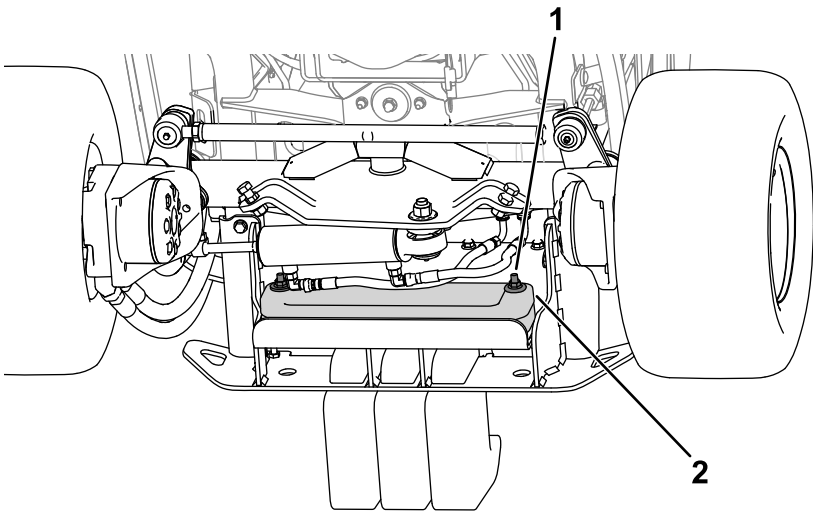

Figure 21
- 2. Use the hardware to secure the weights to the bumper (Figure 21).